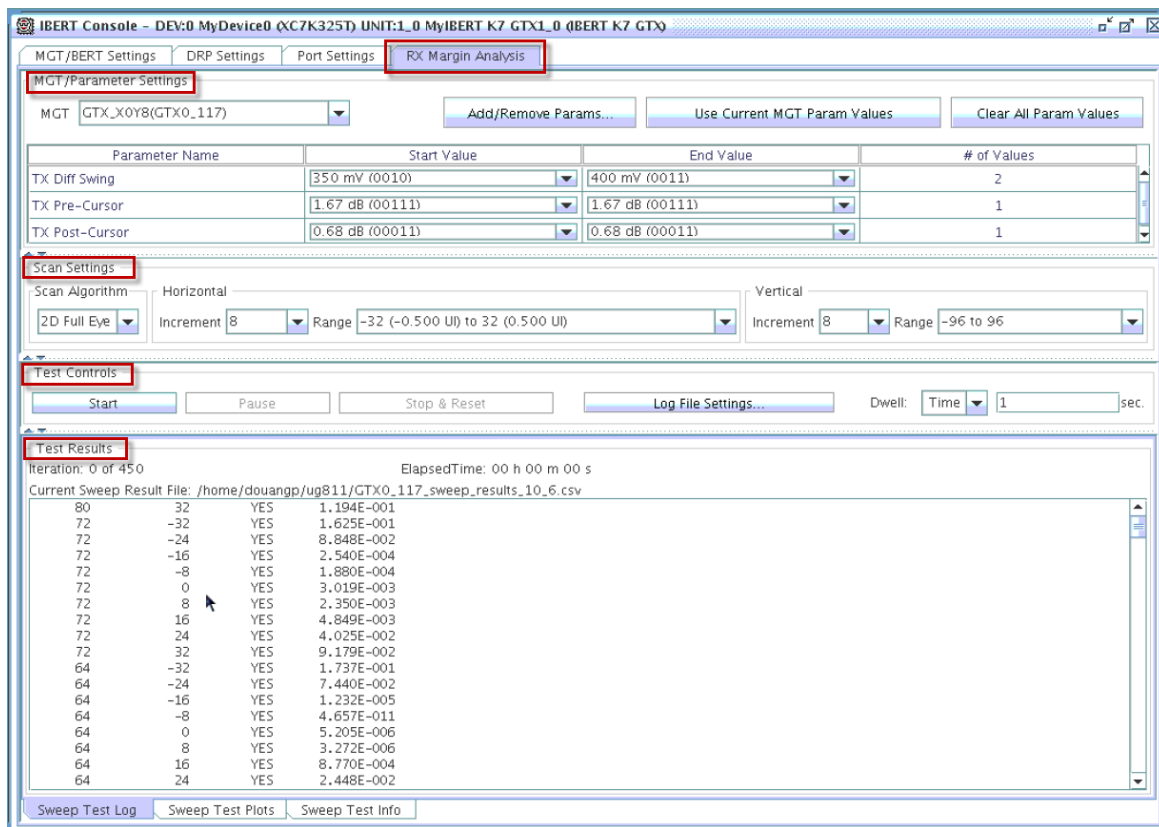

Figure 8: Sweep Test Settings Pane
Figure 8 shows the Sweep Test Panel Parameters and Options and the Sweep Test Settings panel. Some key options are circled in red.
1. From the IBERT Console, be sure the RX Margin Analysis tab is selected, as shown in Figure 8.